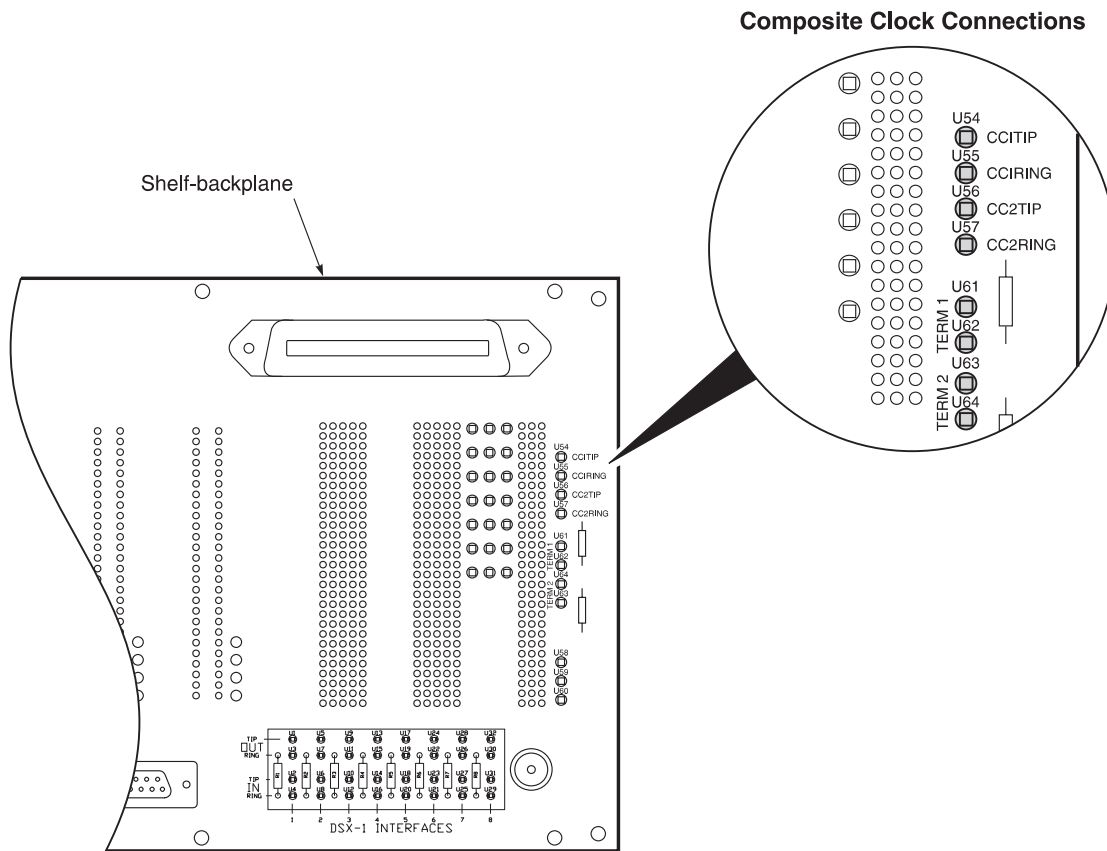

Figure 10 Composite Clock Wire Wrap Assignment
- 1 Connect CC1TIP to one terminal of TERM 1, and CC1RING to the other terminal on TERM 1 (Figure 10).